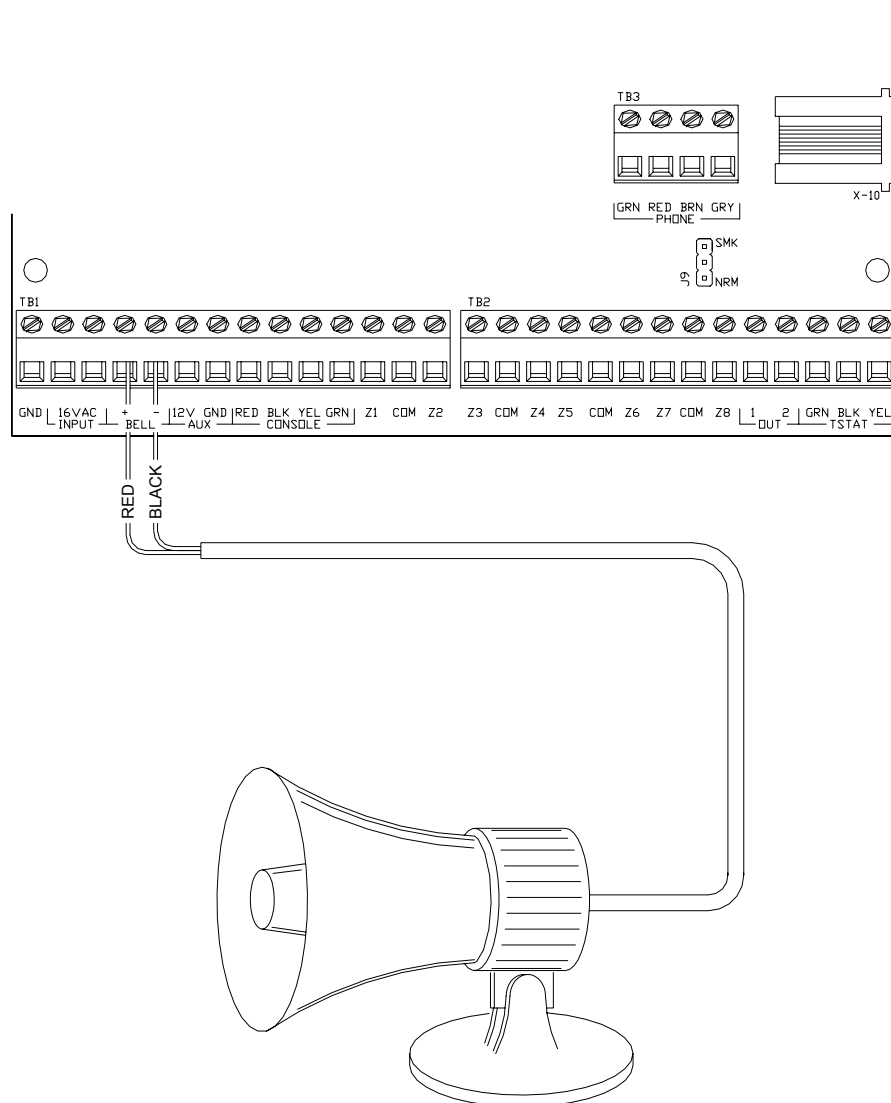

FIGURE 8 - BELL CONNECTIONS
4. Refer to **FIGURE 8 (BELL CONNECTION)** for connections.